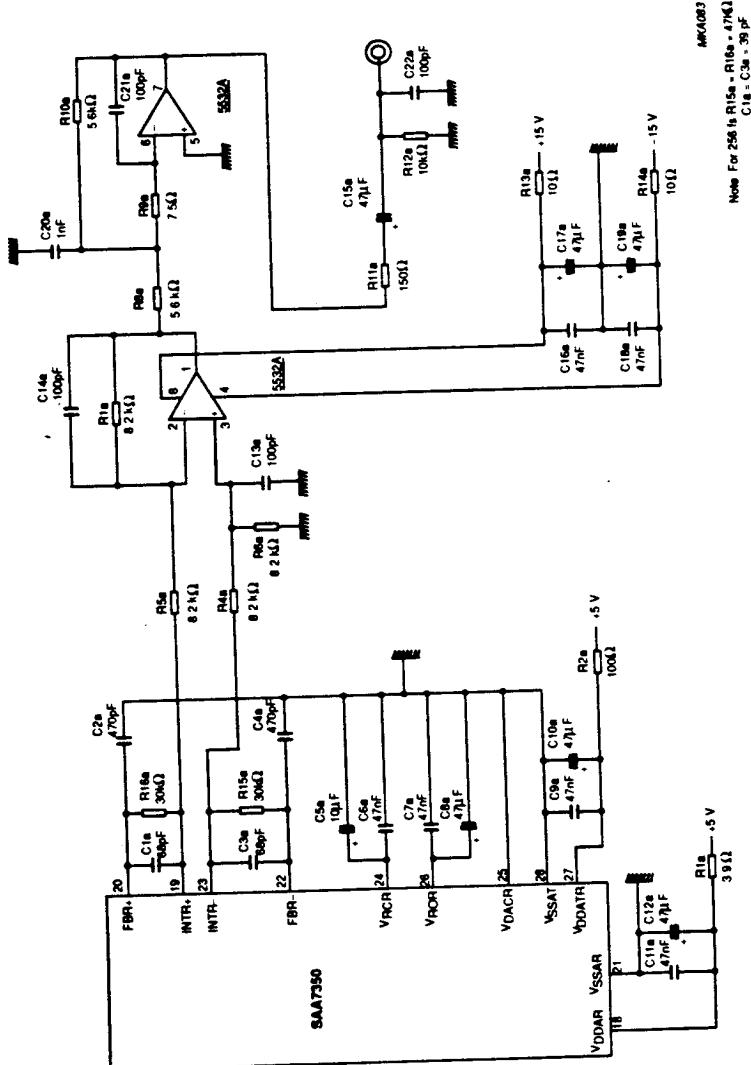

Fig.13 SAA7350 application circuit - analog section right channel (384 ls, 44.1 kHz).
10. Device measured in differential mode with external components shown in recommended application diagram (see Figs 13 and 14). It should be noted that for 1.80 mV output, feedback resistors R16a, R17a, R16b, R17b should be 31.6 k Ω . Application diagram shows preferred type range values of 30 k Ω which give $1.80 \times 30/31.6 = 1.70$ mV.
13. Application output level measured at output from first operational-amplifier stage in Figs 13 and 14.